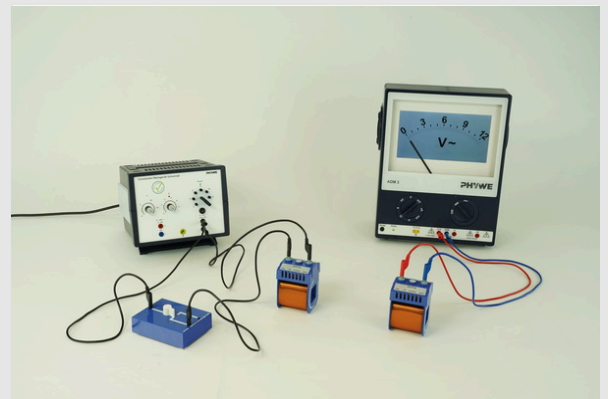

Fig. 2
- Select the primary voltage from $U_P = 15\text{V}$ and increase the distance between the coils step by step according to figure 2: e.g. in steps of 5 cm to approx. 20 cm. Observe the voltage display on the demonstration multimeter at each step.